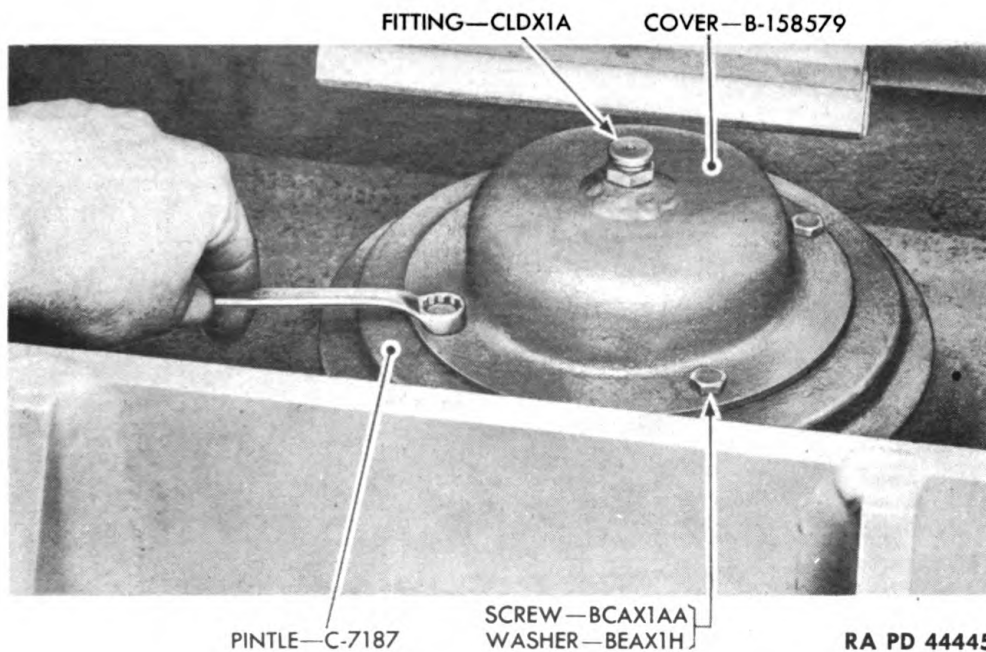

Figure 45—Removing Pintle Bolt Cover
a. Remove four screws BCAX1AA and washers BEAX1H from pintle bolt cover B158579 (fig. 45). Lift cover off.